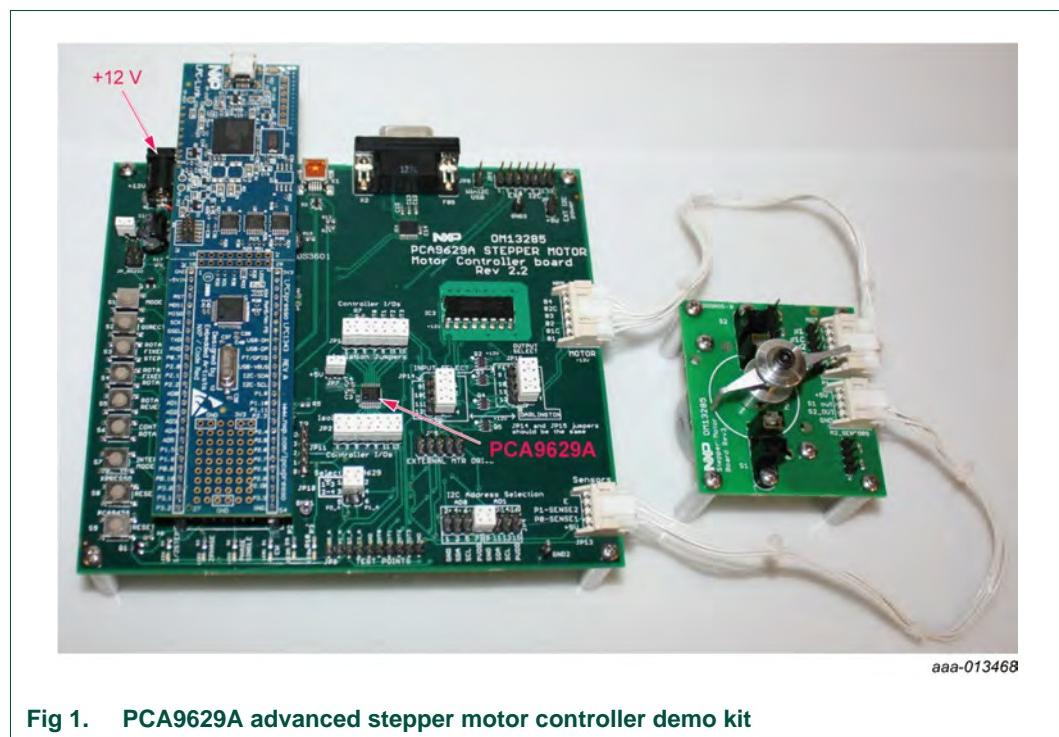

Fig 1. PCA9629A advanced stepper motor controller demo kit
- Step 1 Connect motor cable (6-wire) and sensor cable (4-wire) as shown in Figure 1.